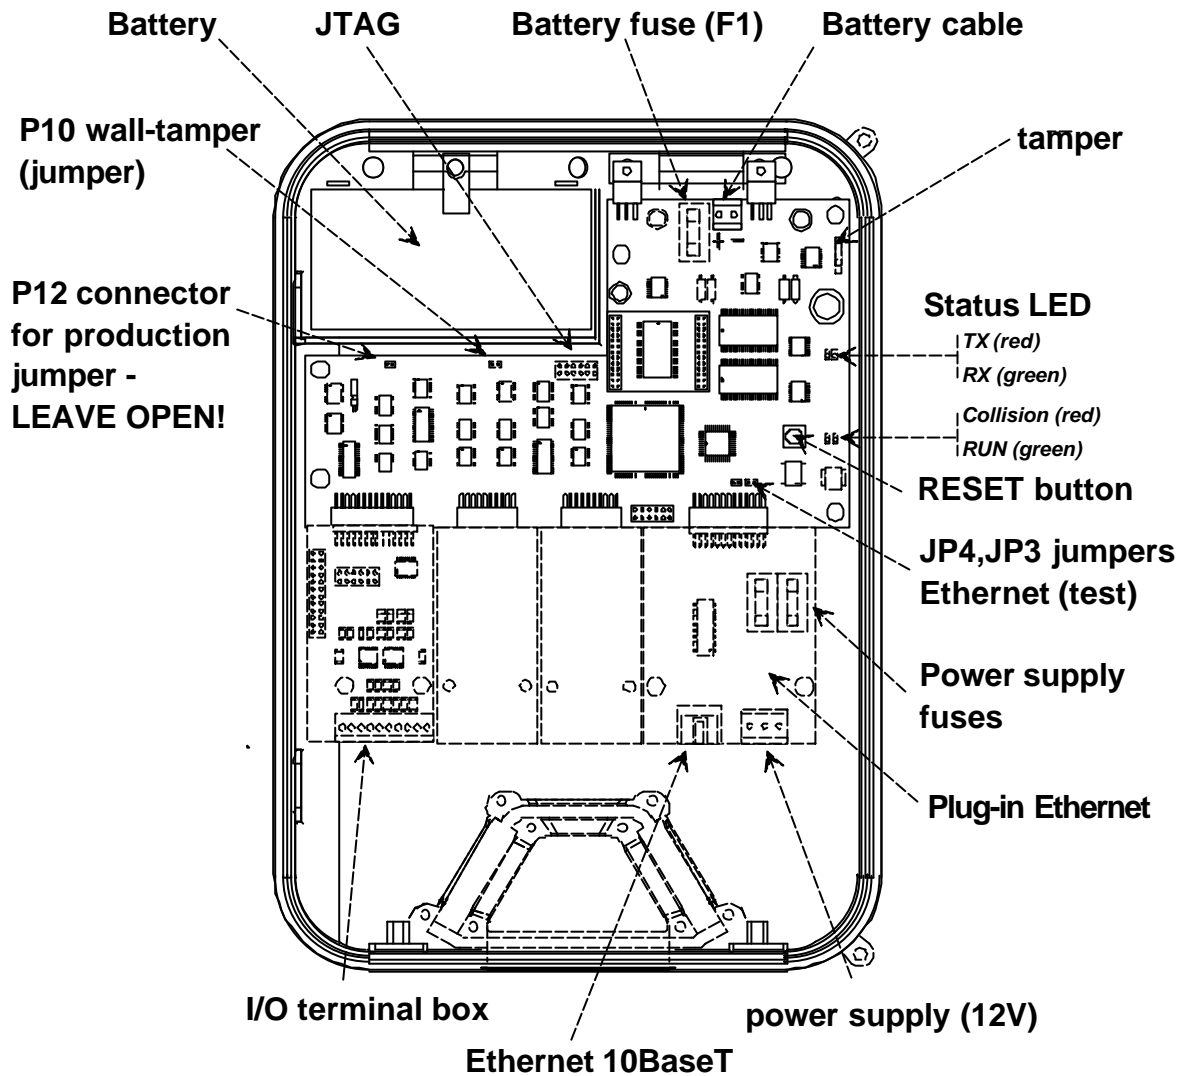
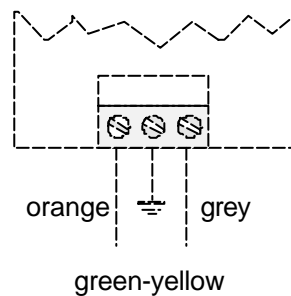

Figure 7: Main circuit components
Figure 8: Close-up view of the 12V supply
4. Insert the cable in the corresponding connector (see Figure 7) to complete the connection to the LAN Ethernet 10BaseT (twisted pair).
When 12V of electric current is supplied (see Figure 8), the terminal commences operation and the green “RUN” LED lights up (see Figure 7)